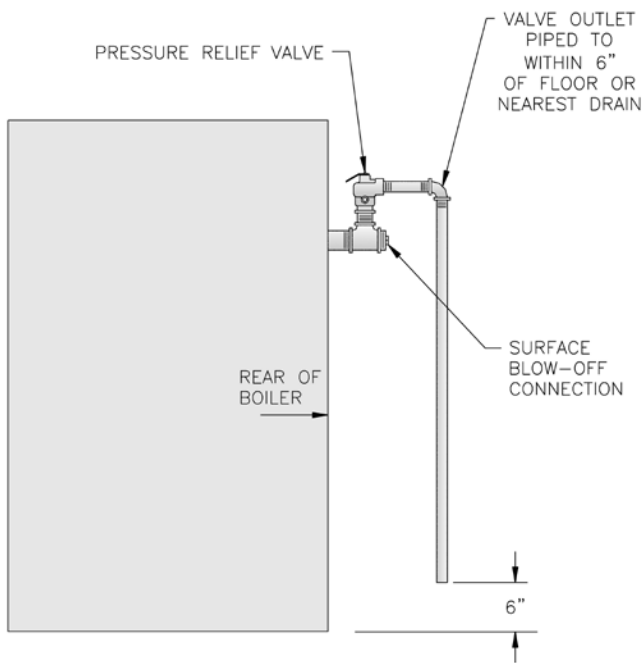

Figure 35a: Steam Boiler - Pressure Relief Valve Hook-up
1. Oil, greases & sediments which accumulate in a new boiler and piping must be removed in order to prevent an unsteady water line and carry over of the water into the supply main above boiler. Operate the boiler with steam in the entire system for a few days allowing the condensate to return to the boiler. If the condensate can temporarily be wasted, operate boiler only for the length of time it takes for condensate to run clear. If the latter cannot be achieved or if the condensate is returned to the boiler, boil out the boiler using the SURFACE BLOWOFF connection. See Figure 35a.